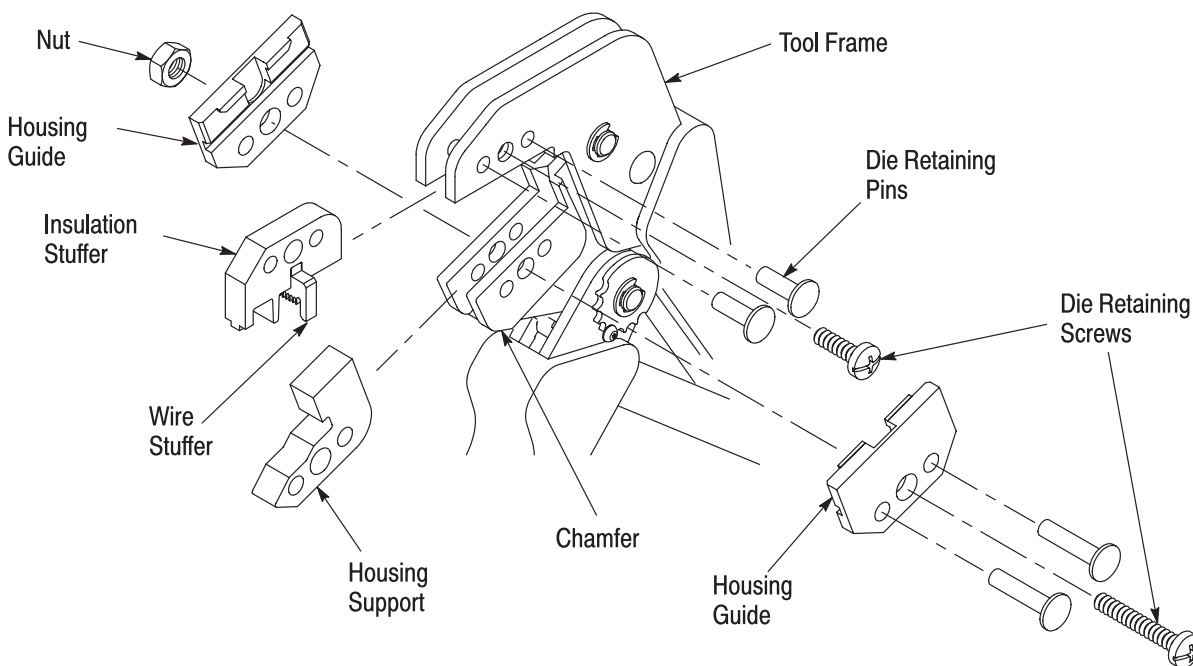

Figure 2
**3. DIE SET INSTALLATION AND REMOVAL** (Figure 2)
2. Place the insulation/wire stuffer assembly as shown in Figure 2. Insert short die retaining pins and short die retaining screw through the tool frame, and tighten the screw.
3. Place housing support in the moving jaw of the tool frame as shown in Figure 2. Mount right hand housing guide using long die retaining pins, and secure with long die retaining screw. Mount left hand housing guide and tighten nut.